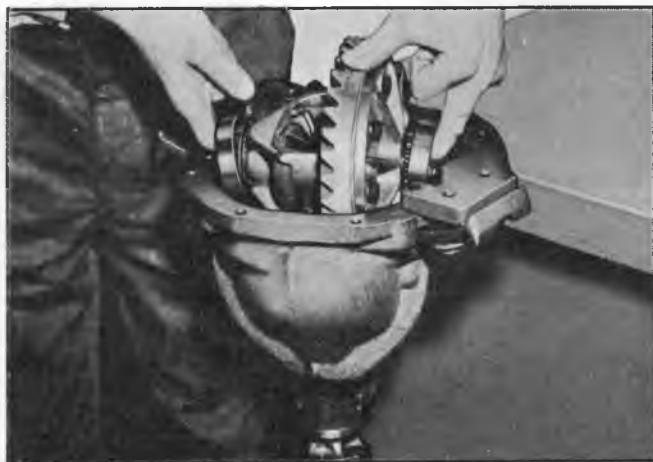

Fig. 21C--Installing Differential Assembly
2. Lubricate bearings with axle lubricant. Position cups on proper bearings then install differential assembly in carrier as shown in Figure 21C. Install right bearing cap, tightening the bolts to a snug fit.